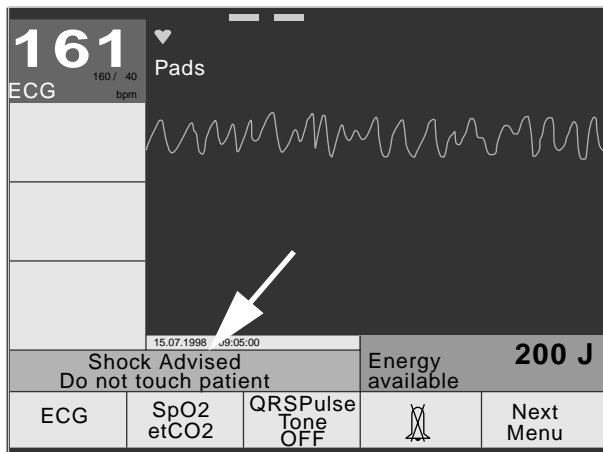

Figure 5-3. "Energy available" message and indication of charged energy
- displays the message "Shock advised - Do not touch patient" (Figure 5-3) and
- the charged energy will be displayed (Figure 5-3).